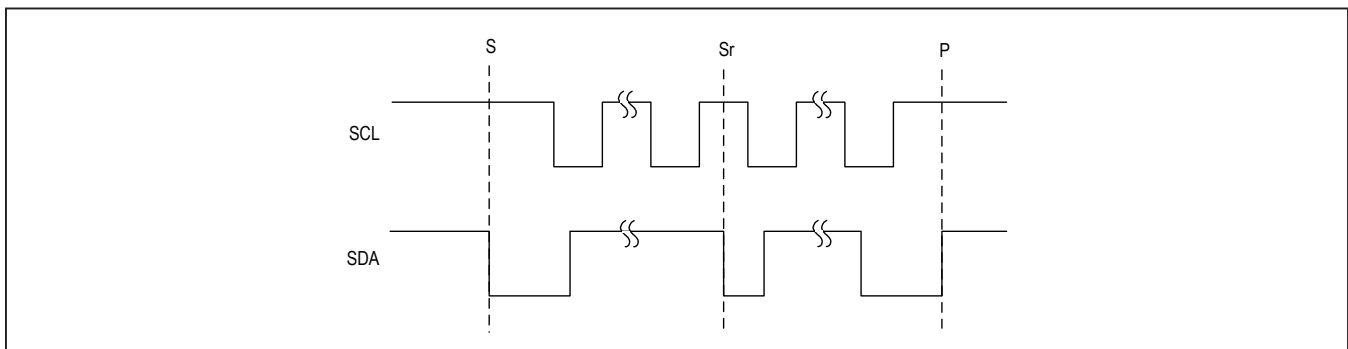

Figure 8. I2C START, STOP and REPEATED START Conditions
When writing to the MAX20353 using I2C, the master sends a START condition (S) followed by the MAX20353 I2C address. After the address, the master sends the register address of the register that is to be programmed. The master then ends communication by issuing a STOP condition (P) to relinquish control of the bus, or a REPEATED START condition (Sr) to communicate to another I2C slave. See Figure 8.